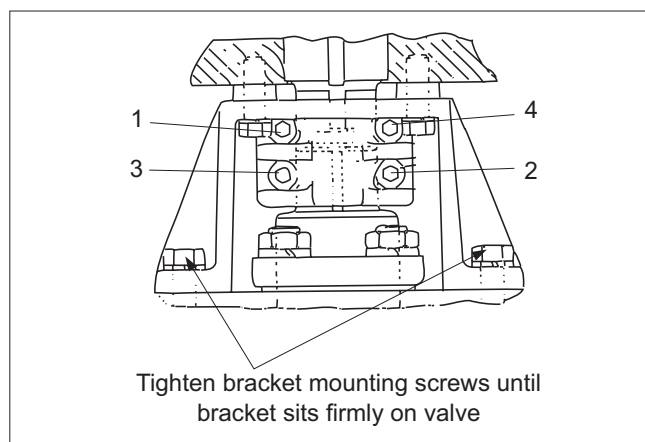

Figure 7.
4. Lower actuator and bracket onto the valve while engaging actuator stem driver into coupling. Tighten screws just enough to firmly mate bracket to valve. This should allow the bracket to slip somewhat to align itself. See **Figure 7**.
5. Tighten no-play coupling screws, if appropriate, in the sequence and to the torques shown in **Figure 7**.
8. Recheck and, if necessary, adjust no-play coupling screw torques. See **Figure 7**.